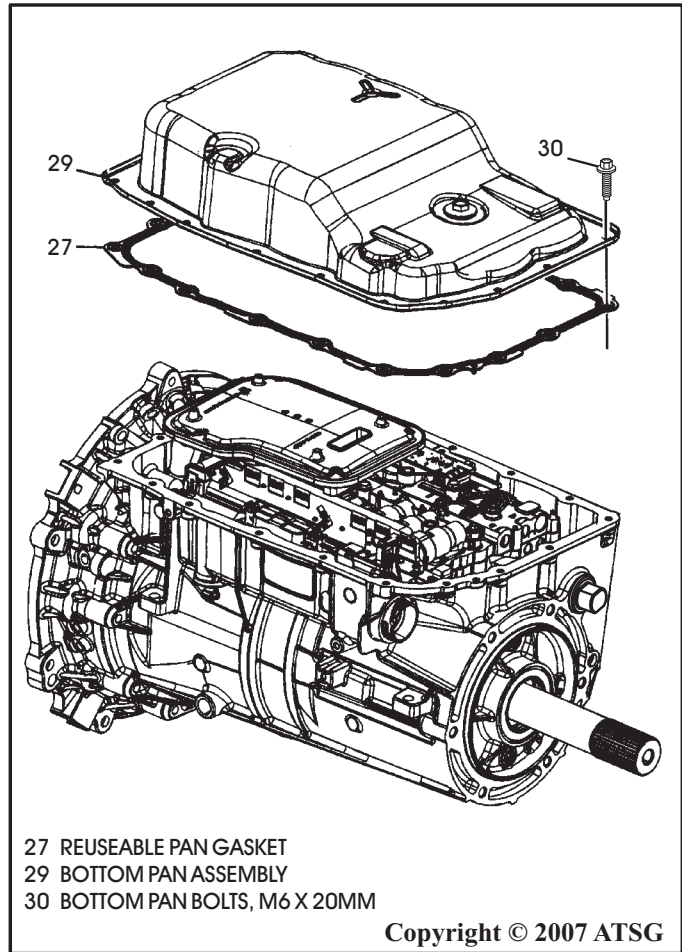

Figure 176
49. Install a new bottom oil pan gasket, as shown in Figure 176.
50. Install the bottom oil pan assembly, as shown in Figure 176, and install the 18 pan bolts.